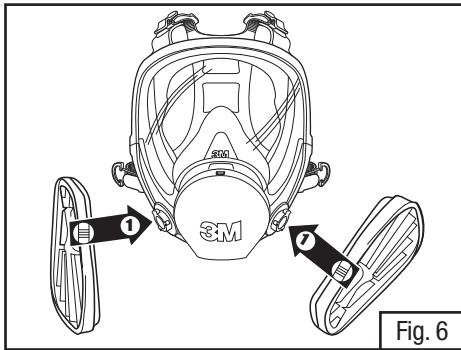

Fig. 6
1. Align notch on edge of 603 adapter with facepiece mark as shown (Fig. 6).